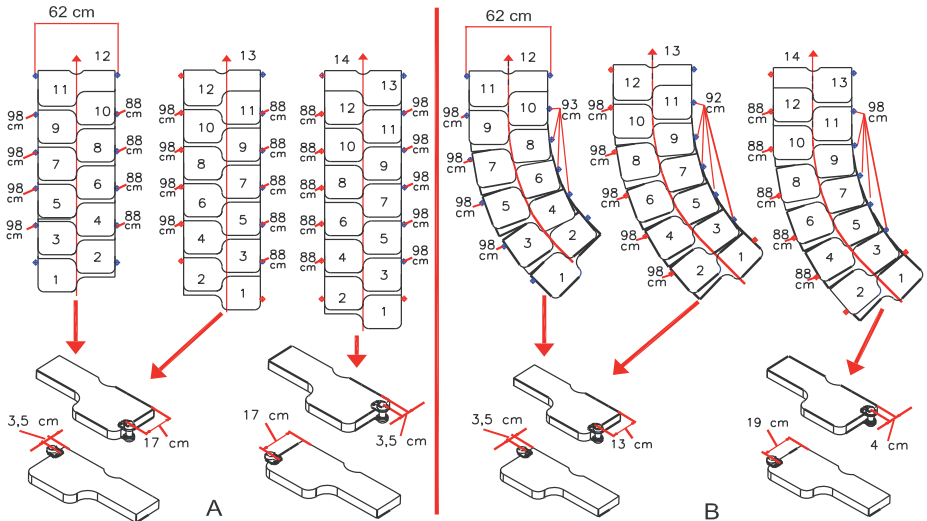

FIG. 5
- a. Trace with a pencil, at the point where the two supports meet, two vertical lines at a distance of 3,5 mm (fig. 5).